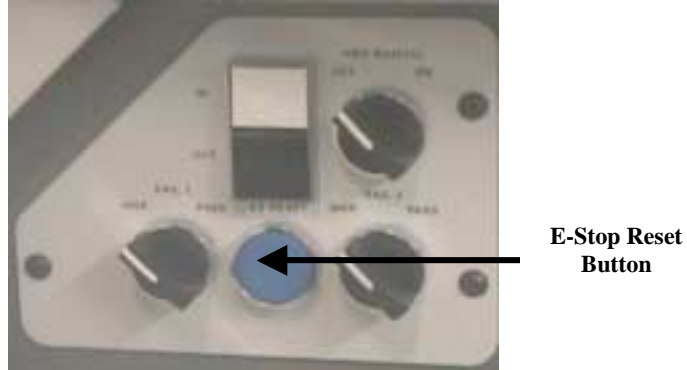

Fig 2.32 Location of E-Stop reset button
22. Reset the Emergency stop by depressing the E-stop reset button (see figure 2.32).
- 11 Push in the **E-Stop Reset** button, which is the blue button located behind the lower front doors on the machine. See fig 2.32.